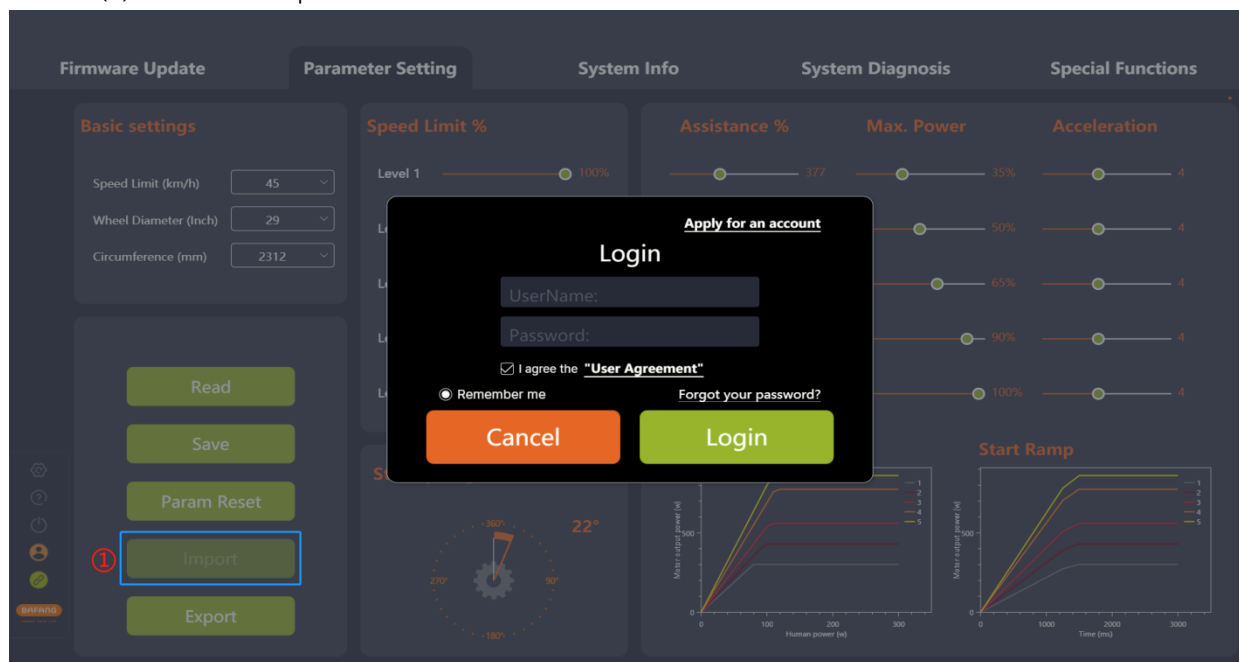

Fig. 5-17 Param reset
- (1) If you want to import the previously generated configuration file (in XML format) to the controller, click the "Import" icon. Note: If not logged in will pop up the login interface, will prompt the user to log in (Fig.5-17).
- (2) Validation rules: The hardware version of the imported controller and the hardware version of the controller in the parameter file are consistent. If not consistent, a prompt should be given and the import should be rejected.
- (3) Select the local parameter configuration file.
- (4) Click the "Open" icon.